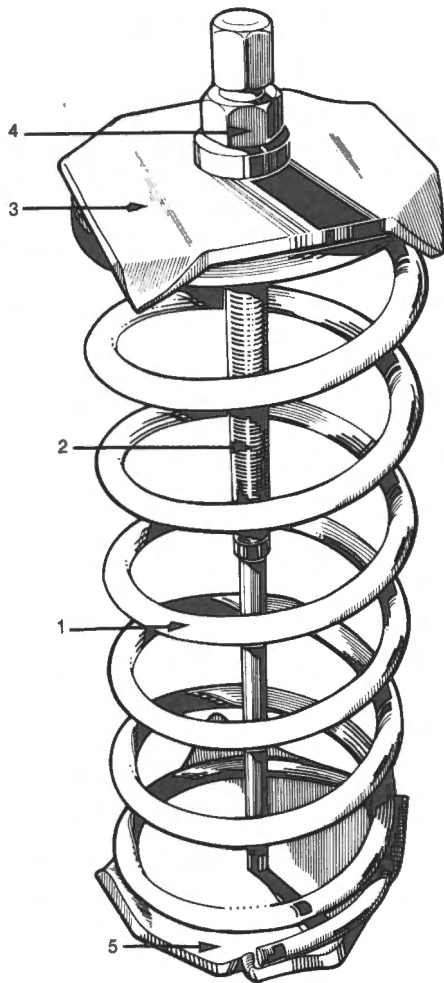

Fig. P-5
- 10 The spring hooks are removed by using the spring compressing tool. Refer Fig. P-5.
The front coil spring is compressed with the tool illustrated in Fig. P-5 using the following procedure: